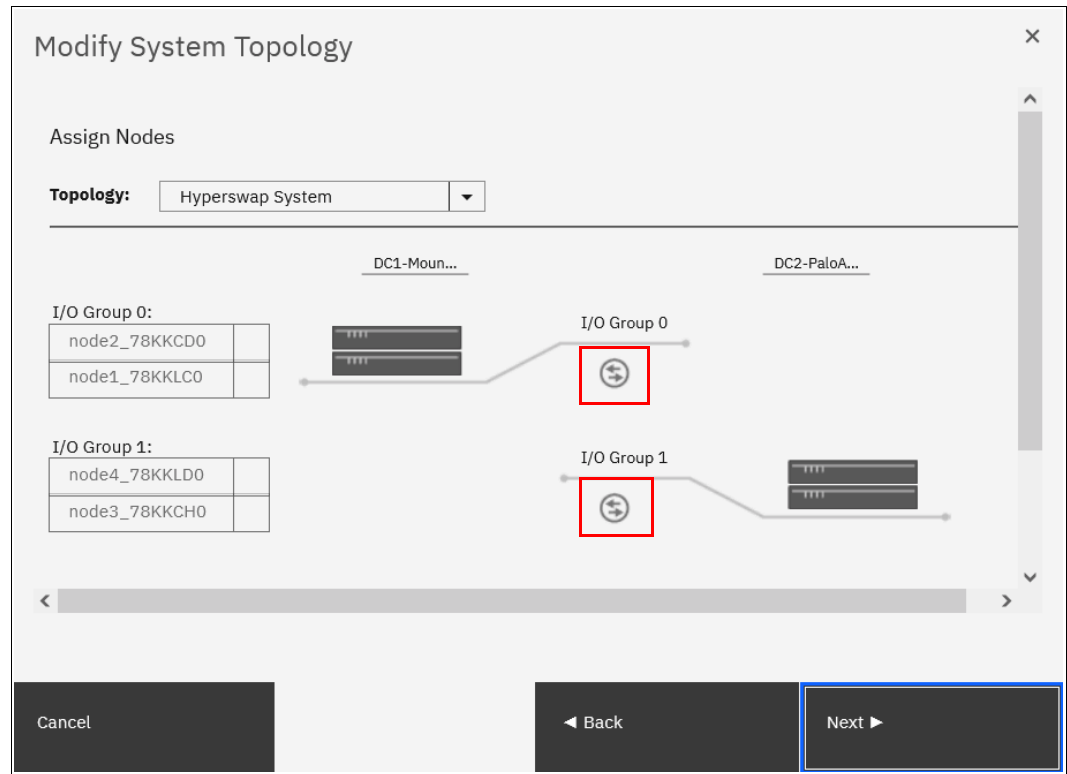

Figure 3-41 Specifying the system topology
3. Assign I/O groups to sites. Click the marked icons in the center of the window to swap site assignments, as shown in Figure 3-41. Click **Next**.